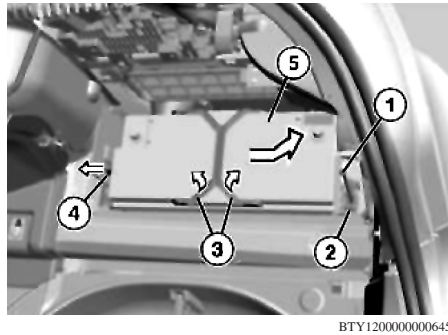

Fig. 3 Battery removal
8. Release threaded pin (1), and remove hold down bracket (2), **Fig. 3**.
9. Disconnect battery vent hose (4), **Fig. 3**.
10. Fold back both clips (3) on battery top, pull battery out of battery tray, and remove battery from vehicle, **Fig. 3**.
2. Push down both clips (3) on battery top, **Fig. 3**.
3. Connect battery vent hose (4), **Fig. 3**.
4. Install battery hold down bracket (2) and threaded pin (1), then tighten as required, **Fig. 3**.